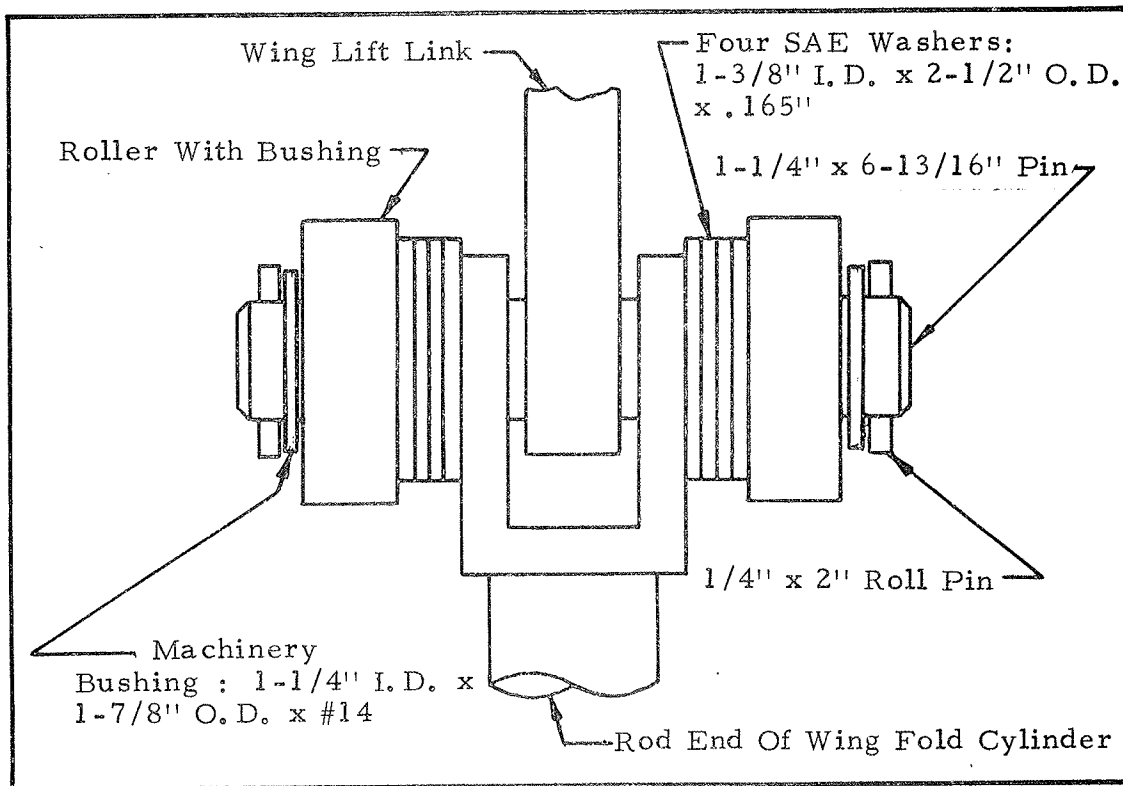

Figure 14
12. Attach wing fold cylinders. See illustration for rod end assembly. Figure 14.